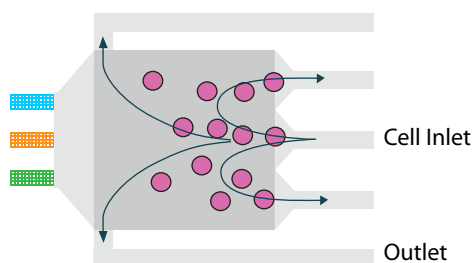
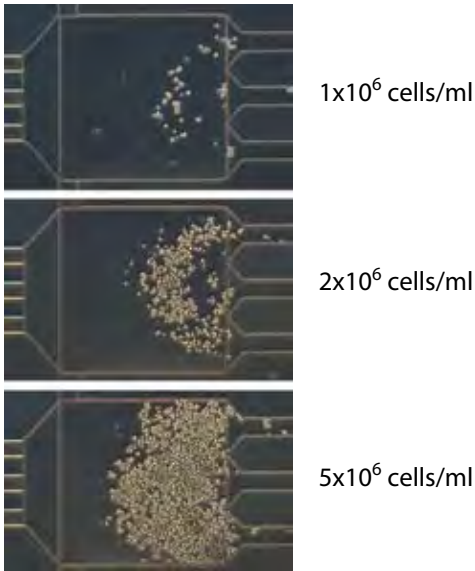

Figure 4 Cell Loading Flow Profile
Figure 5 Cell Loading Density
3. Pipet 2-6 μ l of cell suspension into the **left** 2mm hole at the bottom of the cell inlet well (E). Capillary force will pull the liquid towards the right hole in well E, and cells will accumulate in the culture area over ~2-5 minutes (Figure 4). Verify cell loading density by viewing the culture chambers under a phase contrast microscope. If desired, re-aspirate the right hole to re-establish capillary flow and increase cell numbers. In general, cells will divide more quickly when loaded at higher density (see Figure 5).